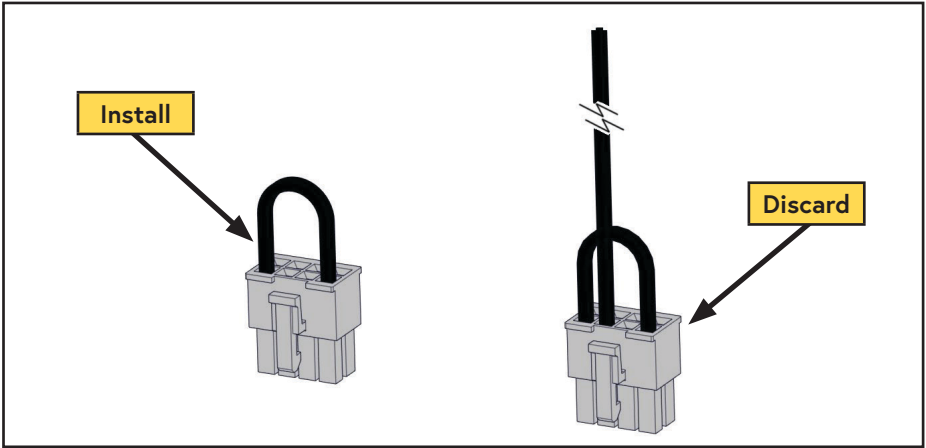

Figure 53 — Electronic park brake 8 pin connector
- Install the 8 pin connector with the jumper wire into the DTC. Discard the other connector as it will not be used (Figure 53).